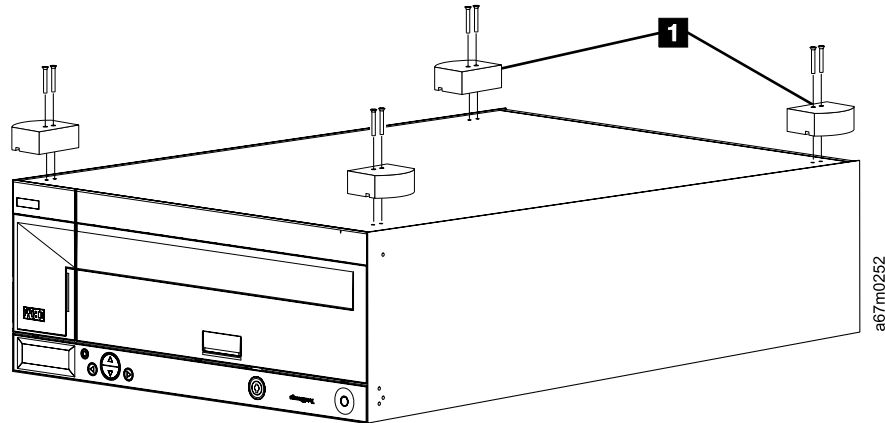

Figure 9. Attachment of Feet
6. Using a #1 Phillips screwdriver, attach the feet by using two longer screws into the pair of round, threaded holes located approximately 1 1/2 inches (30 mm) from each corner of the base unit. Be sure the edge of the base unit fits into the notches in the feet. See Figure 9 on page 21.